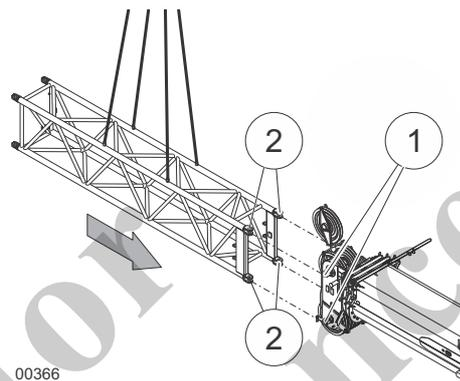

Fig. 237 Lifting the fly boom to the telescopic boom
12	Align the fly boom to the telescopic boom head. The bore holes of the lattice boom section (2) in Fig. 237 must line up with those of the telescopic boom (1) in Fig. 237.